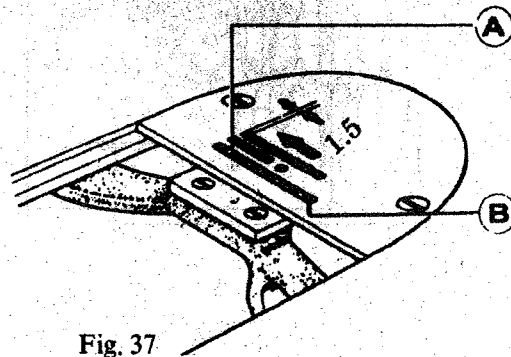

Fig. 37
2) Adjusting the position of feed dog (Fig. 37) The standard position of feed dog A is that the clearance from the throat plate slit end to the front end of the fully advanced feed dog is 1.5 mm.